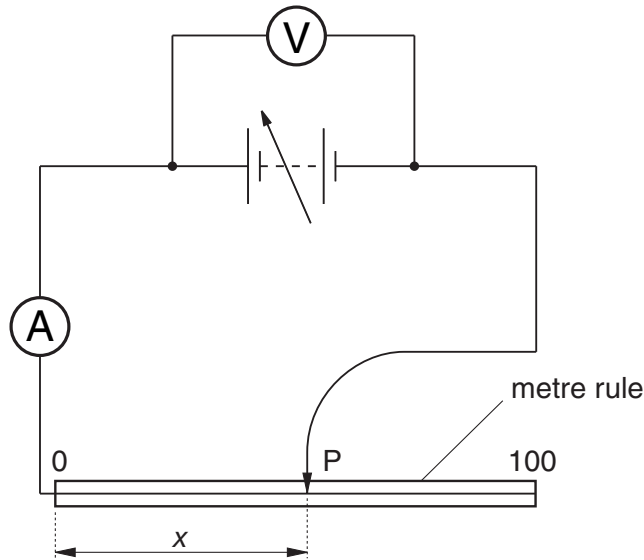

Fig. 1.1
- (a) Set up the circuit shown in Fig. 1.1. Use a crocodile clip to attach a connecting lead to the bare wire at the zero end of the metre rule. The crocodile clip should be attached as close as possible to the zero mark on the rule.